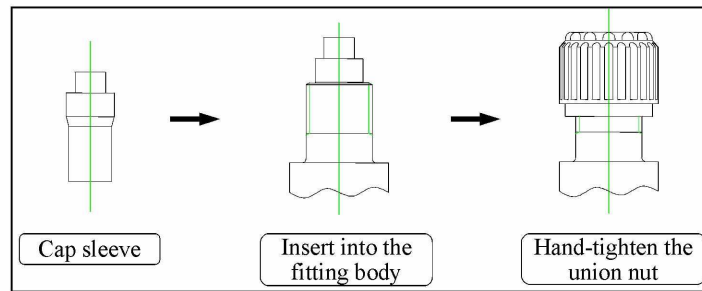

Fig.14 - Installing the cap sleeve (3, 4, W1)
- Insert the cap sleeve into the fitting body and hand-tighten the union nut until it no longer turns (see Fig.14 and Table 10).